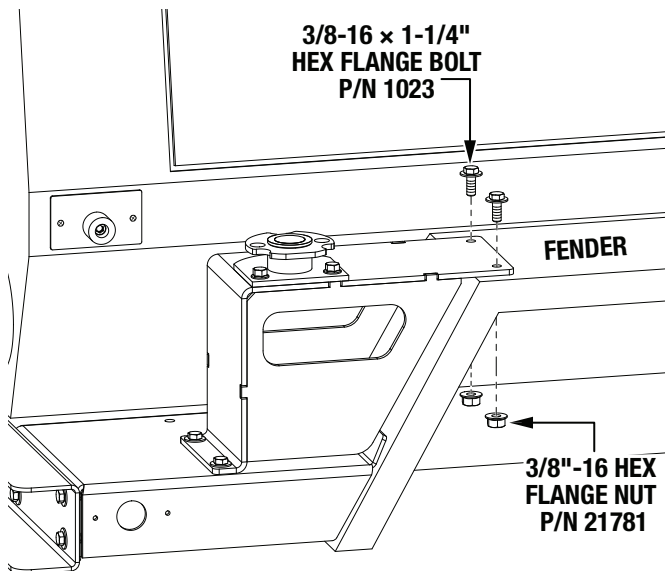

Figure 19. Secure Pivot Base to Fender
- Insert two 3/8-16 × 1-1/4" hex flange bolts (P/N 1023) through the new holes in the fender with two 3/8"-16 hex flange nuts (P/N 21781), and tighten securely. See Figure 19.